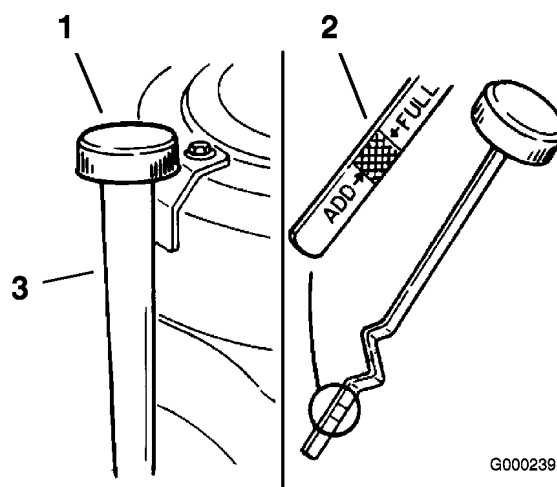

Figure 30
4. Clean around the oil dipstick (Figure 30) so that dirt cannot fall into the filler hole and damage the engine.
5. Unscrew the oil dipstick and wipe the end clean (Figure 30).
6. Slide the oil dipstick fully into the filler tube, but do not thread onto tube (Figure 30).
8. Slowly pour approximately 80% of the specified oil into the filler cap (Figure 30).